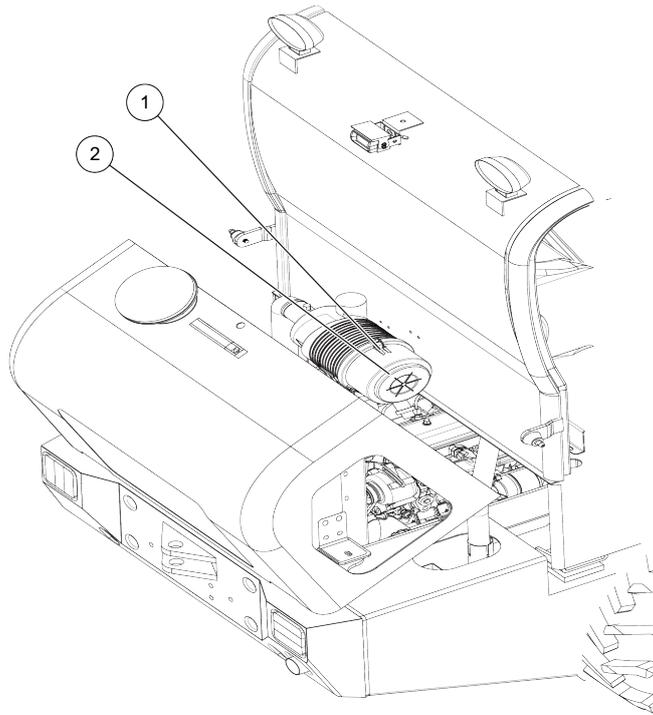

Figure 6-35 Replacing the air filter
(1) Oil plug/ port
Step5: Add the specified type of gear oil from the oil port (1) and (2) to the lower edge of the oil port, and then tighten the oil plug;
Step 2: Unscrew the nut (1) of the air filter, and remove the filter cover (2), as shown in Figure 6-35;